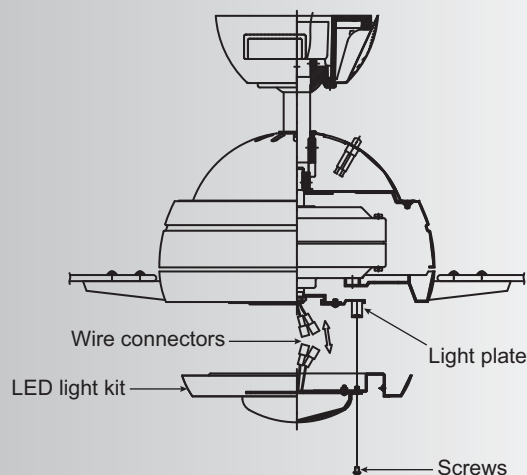

Fig. 19
Step 1. Loosen the three mounting screws on the inside of the LED light kit. (Fig.19)
Step 2. While holding the LED light kit under the fan motor, make the wire connections: (Fig. 19)
Step 3. Tuck the connections neatly into the light plate. Place the key holes on the LED light kit over the 2 screws previously loosened from the light plate, turn the LED light kit until it locks in place at the narrow section of the key holes. Secure by tightening all three screws. (Fig.19)